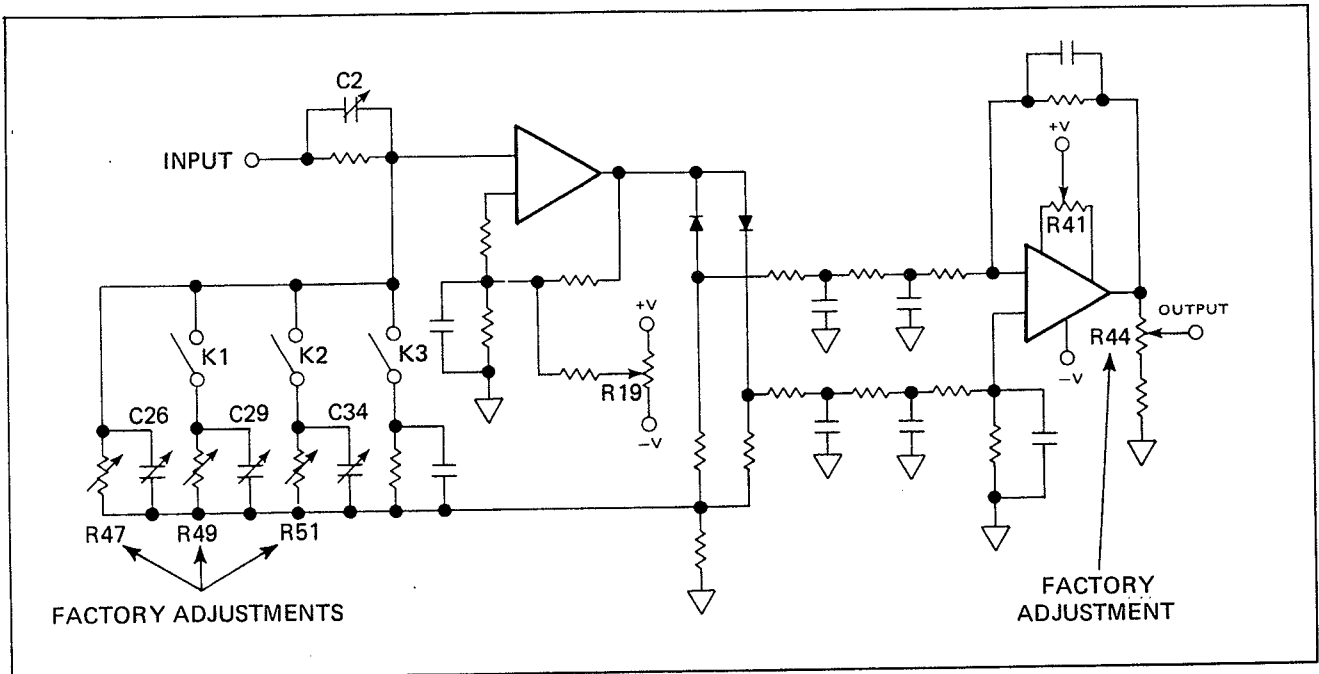
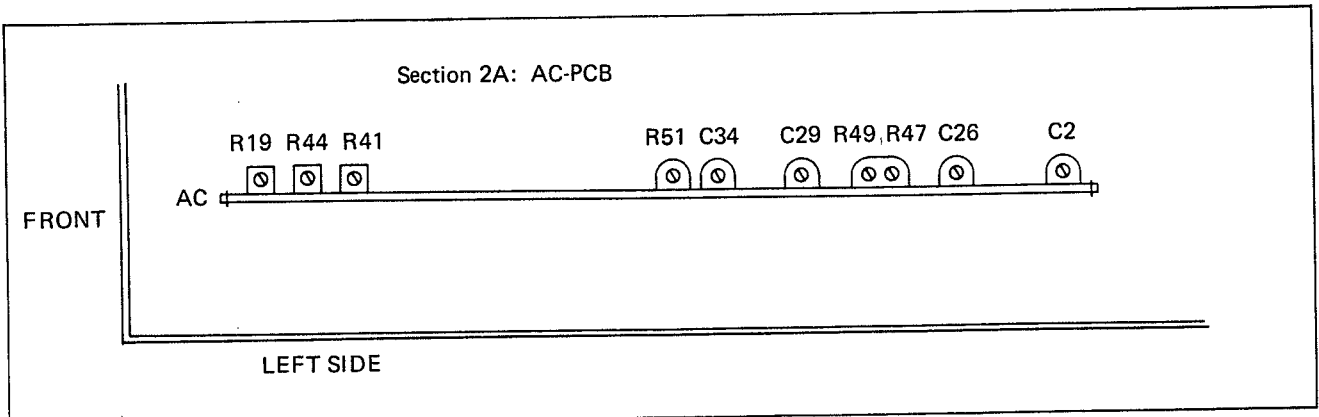

Figure 5.4 - Model 5005 Averaging AC Converter
Figure 5.5 - Model 5005 Calibration Points
5.3.5.2.1 Model 5005 pre-calibration procedure reference drawings are shown in Figures 5.4 and 5.5. The procedures are described in the following paragraphs:
- d) Refer to Figure 5.4 - a functional diagram, and Figure 5.5 - the component location of the AC converter.
- c) Adjust the trimmers listed under "adjust" for the readout indicated. The trimmer locations are shown in Figure 5.5.